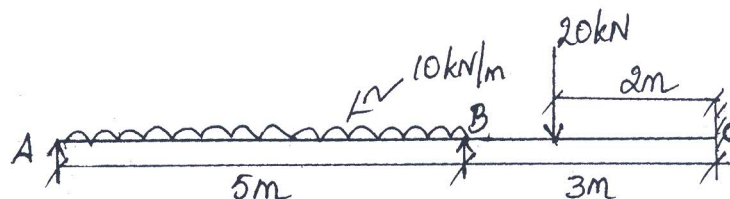

Fig Q6
- 6 Analyze the continuous beam shown in Fig Q6 by Clapeyron's three moment equation. Draw BMD and SFD. (20 Marks)